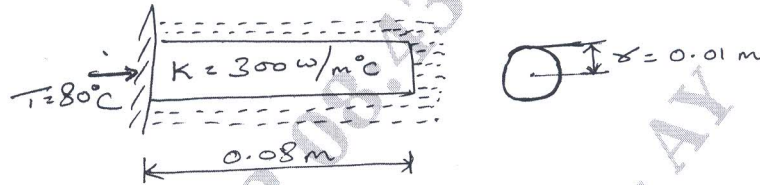

Fig.Q8(a)
- 8 a. Calculate the temperature distribution in a 1D fin with physical properties given in Fig.Q8(a), there is a uniform generation of heat inside the wall of  $Q = 400 \text{ W/m}^3$ .